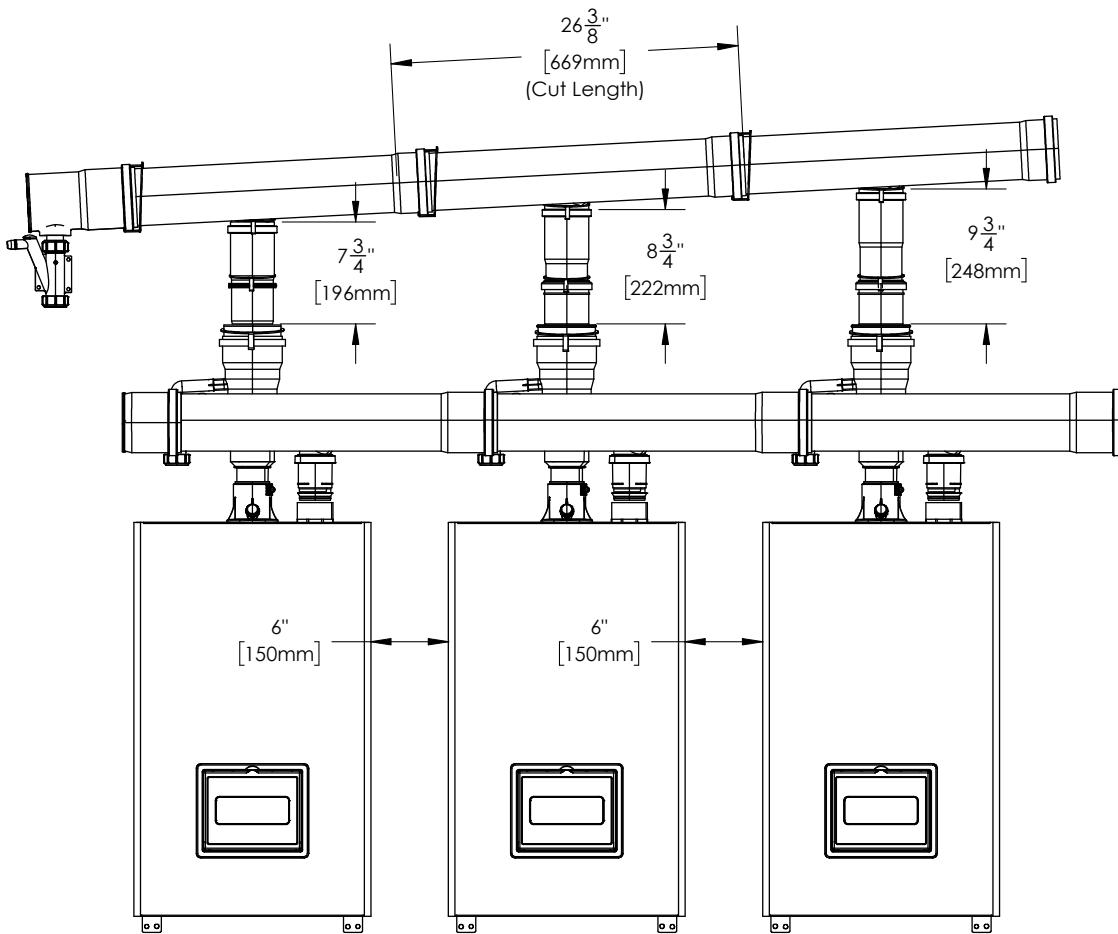

Figure 2 : Assembled Common Venting with Recommended Minimum Spacing Between Boilers
3. Recommended spacing between boilers is 6 in. (152 mm). Branch tees (items 1 and 5) should be cut to 26 3/8 in. (0.67 m) as shown in Figure 2. when using recommended spacing.